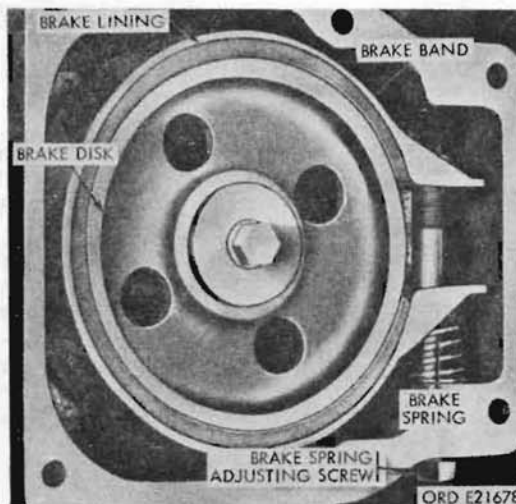

Figure 234. Front winch automatic brake
b. Automatic Brake (Fig. 234).
- (1) Test. With truck parked at the top of a steep grade, start pulling another vehicle up the incline, using the front winch only. When the vehicle is part way up the incline, shift the transmission power takeoff into NEUTRAL position. If the vehicle being pulled rolls backward, adjust the automatic brake in accordance with (2) below.
- (2) Adjustment. Increase the tension on the brake spring by turning the brake spring adjusting screw on underside of brake case (fig. 234).
209. Automatic Brake (Fig. 234)